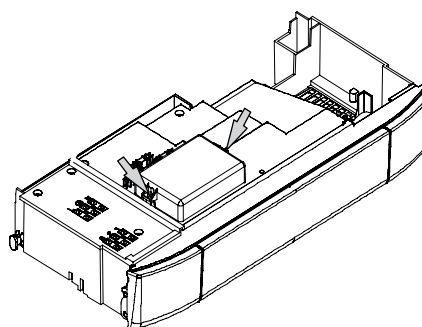

Figure 12.21
- Remove the two screws shown in figure 12.21 and open the cover of the tank thermostat connection terminal board.